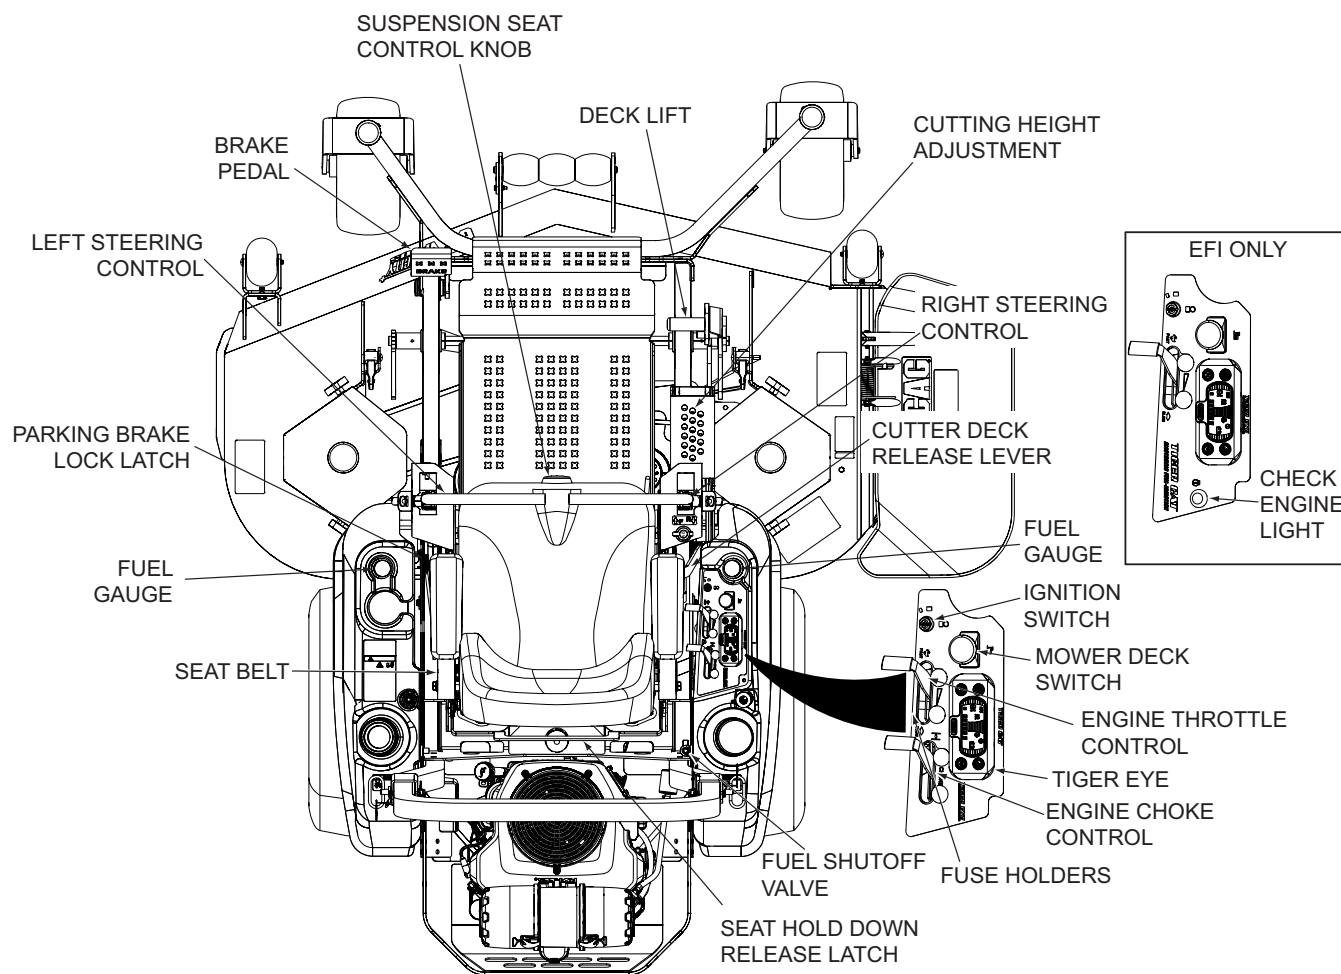
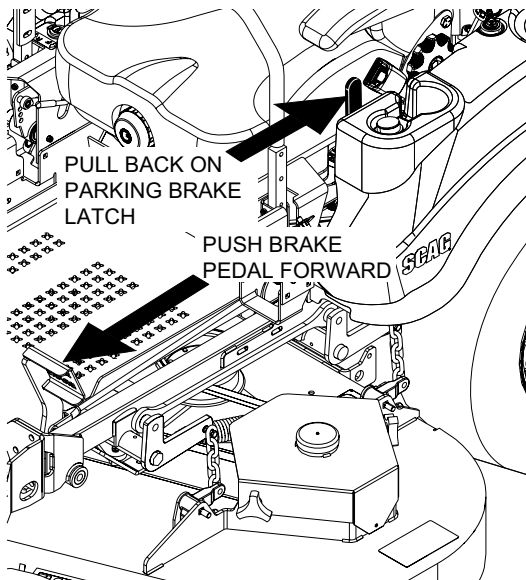
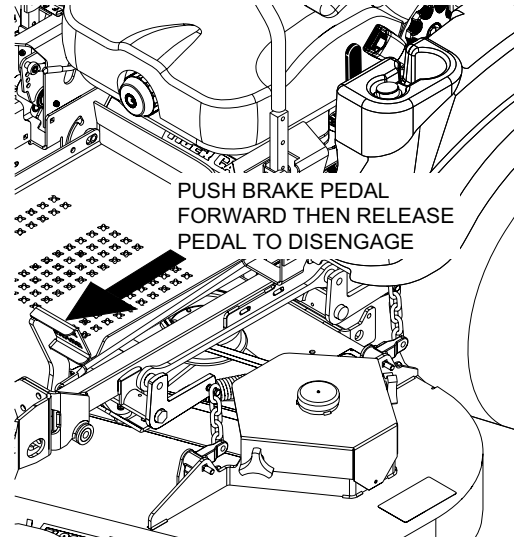

Figure 4-2. Controls and Instruments
Figure 4-3. Engaging Parking Brake
Figure 4-4. Releasing the Parking Brake
12. **Fuse Holders (Figure 4-2).** Two 20-amp fuses protect the mower's electrical system. To replace fuses, pull fuse out of the socket and install a new fuse.
1. **Ignition Switch (Figure 4-2).** The ignition switch is used to start the engine and has three positions; OFF, ON, and START.
2. **Mower Deck Switch (Figure 4-2).** Use to engage and disengage the mower drive system. Pulling up on the switch will engage the deck drive. Pushing down on the switch will disengage the deck drive.
3. **Engine Choke Control (Figure 4-2).** Use to start a cold engine.
4. **Engine Throttle Control (Figure 4-2).** Use to control the engine speed. Pushing the lever forward increases engine speed. Pulling the lever back decreases engine speed. Full back position is the IDLE position. Full forward is the cutting position.
5. **Left Steering Control (Figure 4-2).** Use to control the mower's left wheel when traveling forward or reverse.
6. **Right Steering Control (Figure 4-2).** Use to control the mower's right wheel when traveling forward or reverse.
8. **Parking Brake Lock Latch (Figure 4-2).** Use to lock the parking brake in the engaged position. Fully depress the brake pedal and pull the parking brake lock latch back to lock the parking brake in the engaged position. See Figure 4-3. Fully depress the brake pedal forward to disengage the parking brake lock latch, then release the brake pedal to disengage the brake. See Figure 4-4.
9. **Fuel Tank Gauge (Figure 4-2).** Indicates the amount of fuel in the fuel tank.
11. **Deck Lift Foot Lever (Figure 4-2).** Use to raise and lower the cutter deck. Push full forward to lock in the transport position.
- 12. Cutting Height Adjustment (Figure 4-2).** Use to set the cutter deck at the desired cutting height.
- 13. Deck Release Lever (Figure 4-2).** Use to lock the cutter deck in the transport position. Push the foot pedal forward and pull back on the release lever to release the cutter deck for normal mowing.
- 14. Seat Suspension Control Knob (Figure 4-2).** Use to select the optimum suspension rate based on the operator.
- 15. Seat Belt (Figure 4-2).** Use to secure the operator. Seat belt must be worn at all times when the ROPS is in the upright and locked position.
- 16. Seat Hold Down Release Latch (Figure 4-2).** Located behind the seat. Use to secure the seat in the operator's position. Release the latch to gain access under the seat.
- 17. Fuel Switching Valve (Figure 4-2).** Located on the right side of the machine. Used to shut off fuel supply to the engine and change fuel supply between the fuel tanks. Rotate the valve counter clockwise to supply fuel from the tank on the left side only. Rotate the valve clockwise to supply fuel from the tank on the right side only.
Do not travel forward over a curb. The mower will hang up on the curb. Raise the deck and travel backwards over the curb at a 45 degree angle. (See Figure 4-2 items 11-13 for cutter deck raising description.)